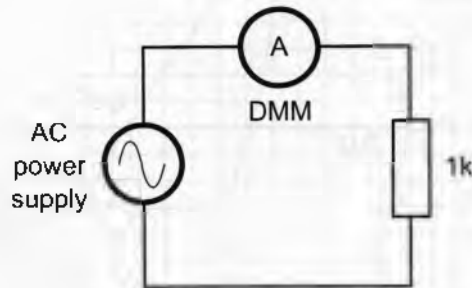

Figure 1
10. Wire the circuit of Figure 1 but don't turn it on.